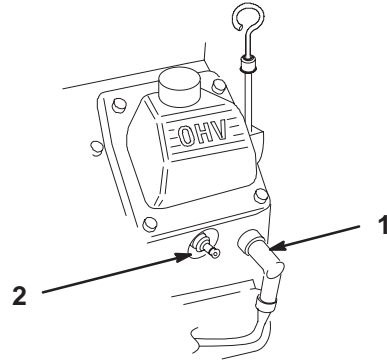

Figure 43
2. Pull the wire(s) off the spark plug(s) (Fig. 43). Now clean around the spark plug(s) to prevent dirt from falling into the engine and potentially causing damage.
3. Push the wire(s) onto the spark plug(s) (Fig. 43).